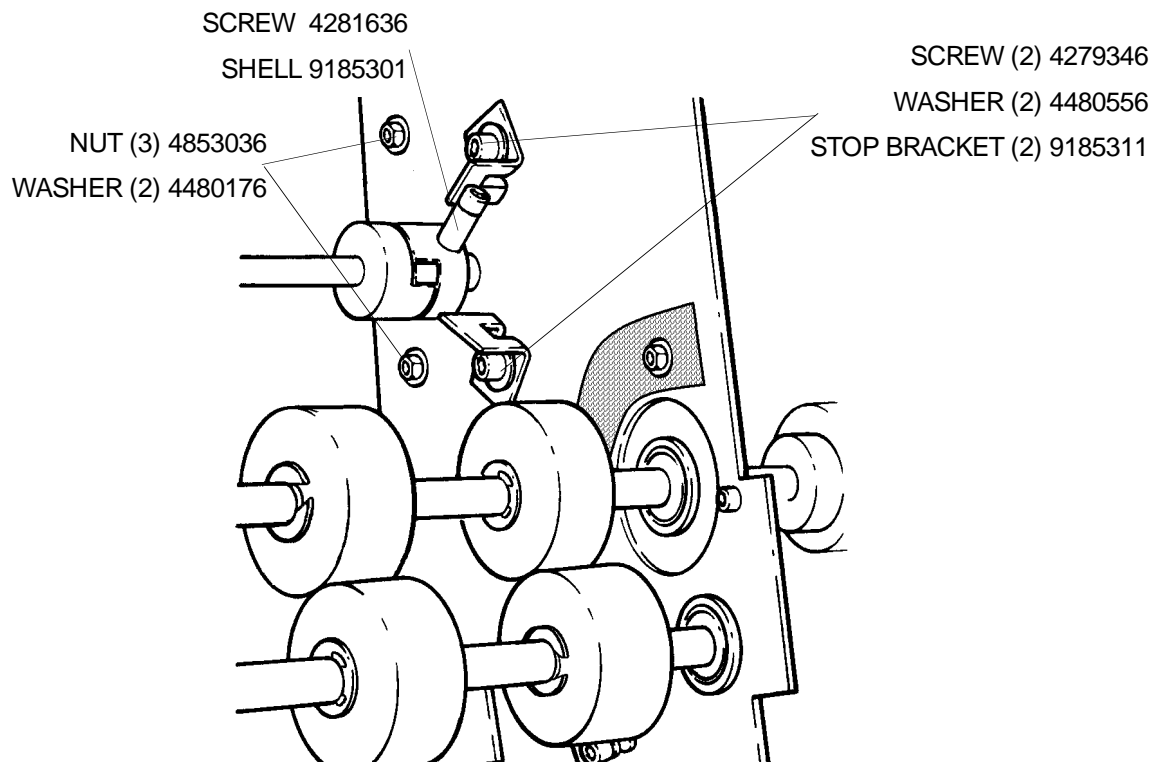

figure 6
- 15.** Mark the position of STOP BRACKETS. Remove and discard indicated parts on figure 6. Install new parts.